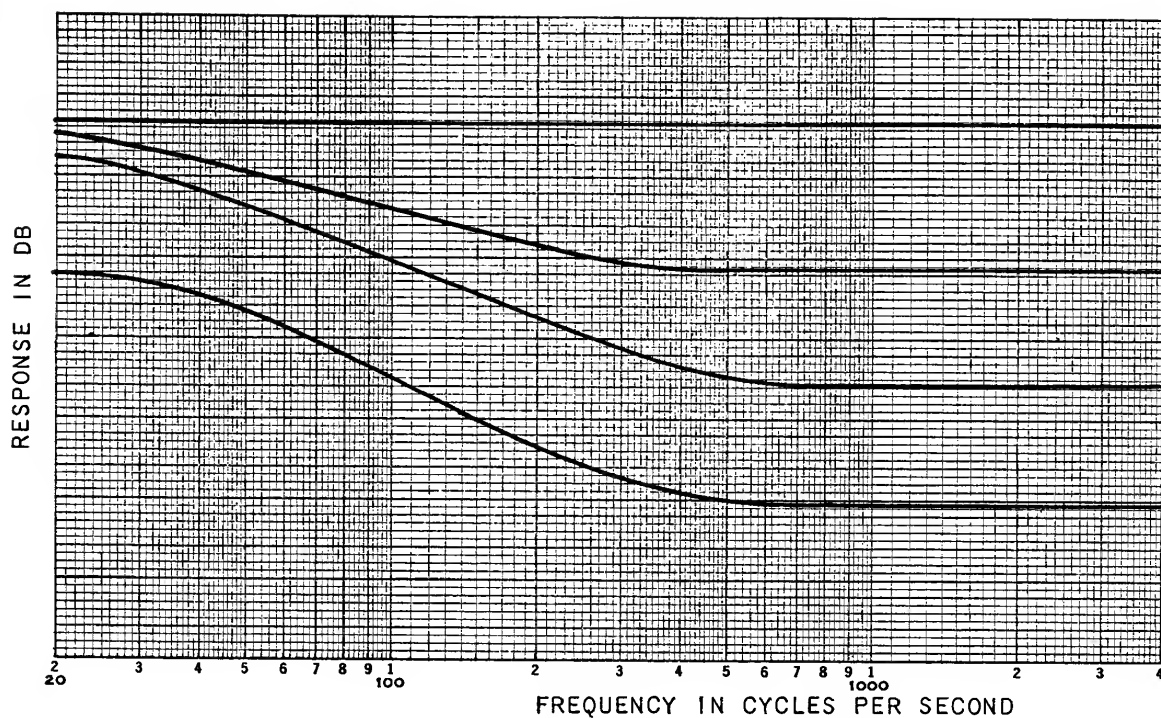

FIGURE 3-4 LOUDNESS COMPENSATION
- 2.1.7 TONE CONTROLS — MIN.— $\pm 18$  db at 20 CPS;  $\pm 16$  db at 20,000 CPS. See curves in figure 3-4.
Loudness compensation is achieved by tapping the VOLUME CONTROL and shunting higher frequencies to ground, as shown in the simplified schematic, figure 3-4.
**3.2.5 Bass and Treble Controls.**—The BASS and TREBLE controls vary the frequency at which boost or cut begins. For lowest possible distortion, tone control equalization is achieved by feedback rather than passive networks. Figure 3-4 shows the equivalent circuit of the tone control network and amplifier. When the tone controls are set in a flat position, the overall circuit gain is one.